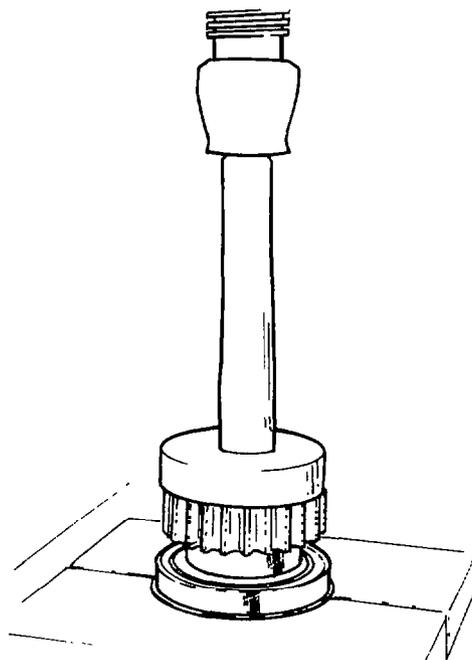

Fig. 188 — Installing Pinion Bearing
- b. Stand the pinion on the gear end and install the pinion bearing with the outer race snap ring towards the pilot end of pinion (see fig. 188).